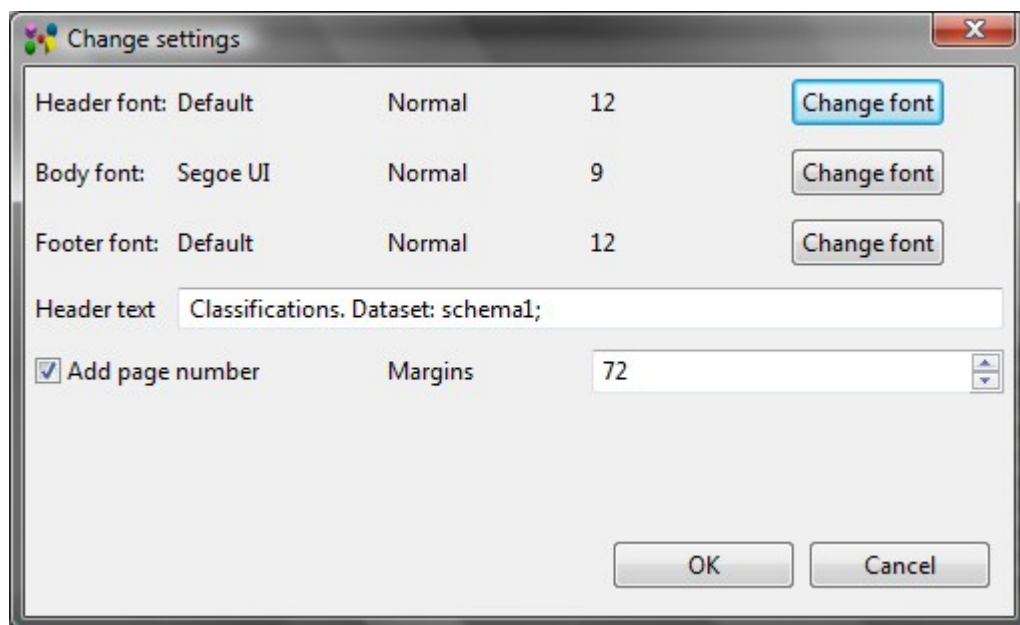

Figure 5. Change setting wizard page
- **Settings** button - press this button to invoke the wizard page to change the printing parameters (see Figure 5):